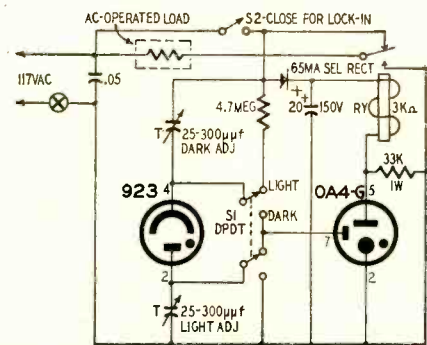

Fig. 4—General-purpose relay combining features of the preceding figures.
Fig. 4 is the diagram for a general-purpose photoelectric control unit. This is the one shown in the photographs. It covers all the above-mentioned uses. Switch S1 selects the type of activation desired, in either light or darkness. S2 changes the circuit from automatic resetting to lock-in operation.
**Materials for Fig. 4**